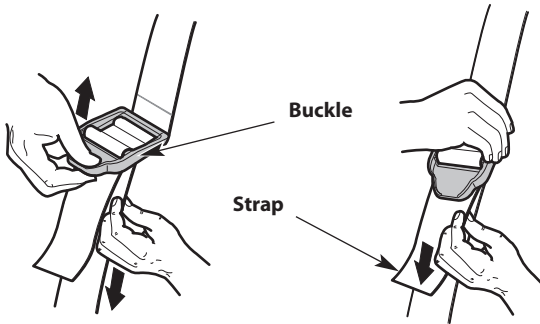

Fig. 12
4. Adjust the shoulder strap to fit the operator (Fig. 12). Pull the buckle up to loosen the shoulder strap. Pull the strap down to tighten the shoulder strap.